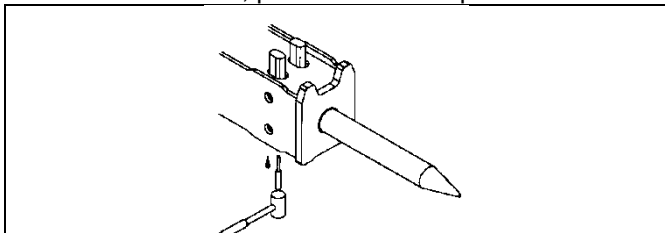

Fig. 10-4 Remove large retainer pins
7. Large retainers are free to be removed. [Fig. 10-4] Set aside.